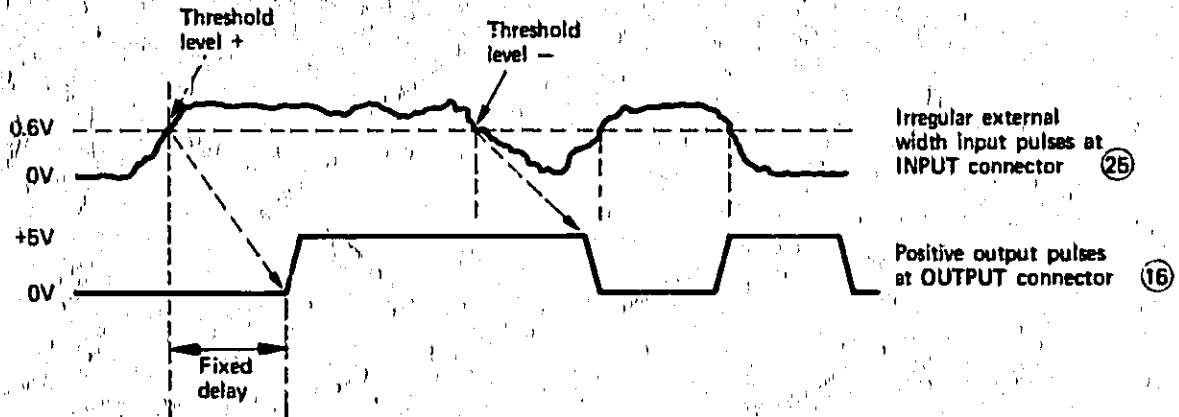

Figure 3-23. Output pulses in external width mode
a. Connect the external signal to the INPUT connector (25) on the rear panel of the 8012B.
b. Set the Mode Selector switch (24) to EXT WIDTH.
3-54 The output pulses should appear at the OUTPUT connector (16) as shown in Figure 3-23.